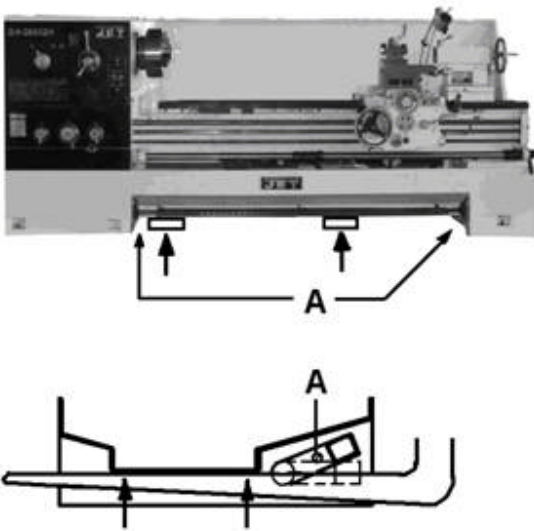

Fig 5
To lift the machine by forklift (Fig 5), the 2 foot pedal upper stroke limit screws (A) must be removed, so that the foot pedal can swing up freely and give space for the forks.